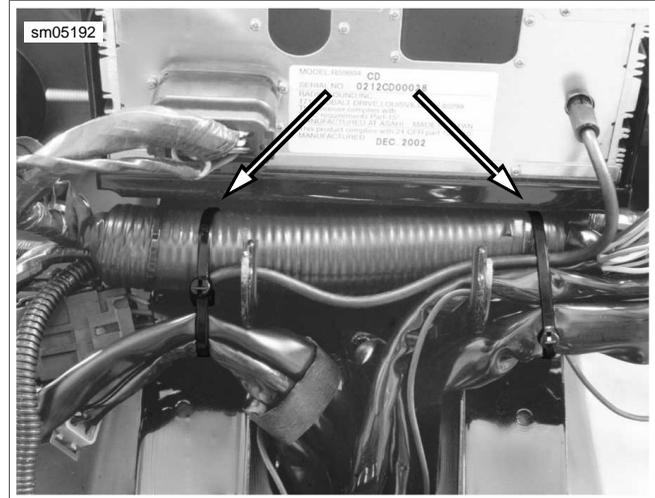

Figure 8-116. Cable Strap Convoluted Tubing and Conduit
7. Orient connectors as shown in Figure 8-114. Install two **new** cable straps outboard of radio bracket hooks to secure wire bundles and conduit to convoluted tubing of interconnect harness. Cut any excess cable strap material. See Figure 8-116.